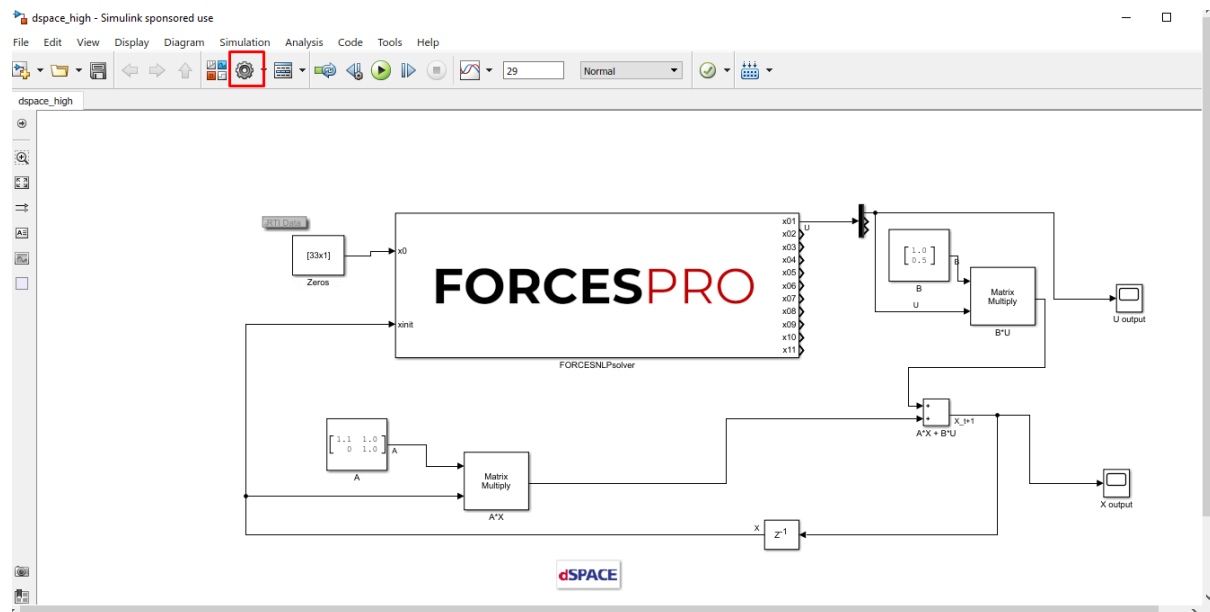

Figure 13.7: Open the Simulink model options.
7. (Figure 13.7) Access the Simulink model's options.